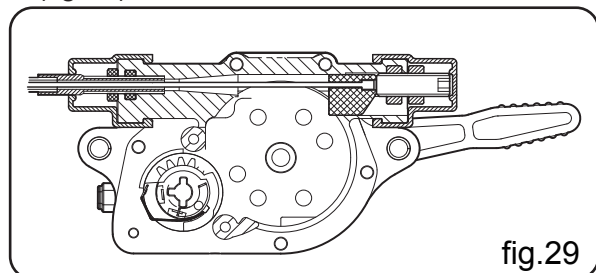

fig.29
- A. In case of removing the fuel cock (3), move to high speed position of the lever (2) ready. (fig.29)
- A. In case of removing the stop switch (4), move to high speed position of the lever (2) ready. (fig.29)